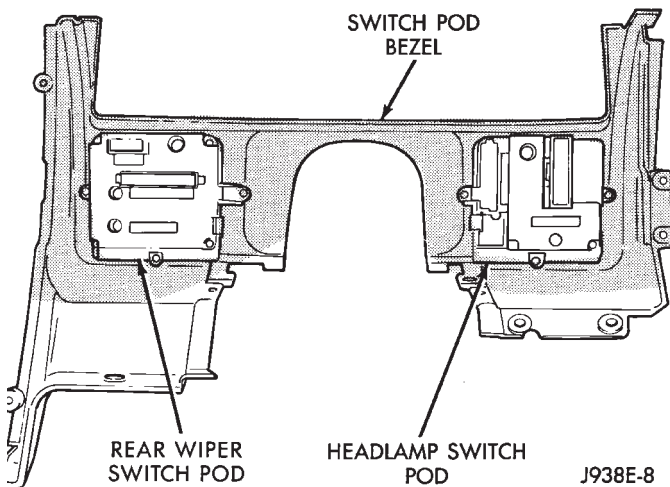

Fig. 11 Rear View of Switch Pod Bezel
(21) Pull switch pod bezel out far enough to remove switch connectors. Disconnect connectors from each switch pod and remove bezel (Fig. 11).